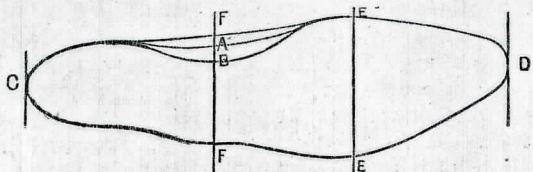
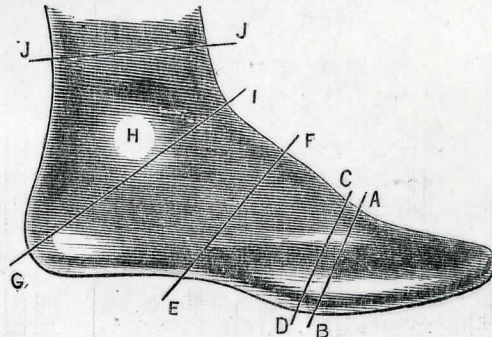
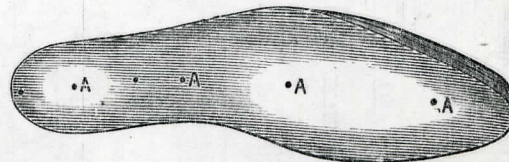

Fig. 64.—Shape of Foot Drawn on Paper
Fig. 66.—Measuring a Stockinged Foot.
Fig. 69.—Bottom of Last.
IN making a pair of boots or shoes, the lasts are the first requirements; and these cannot be done without. To know the size wanted, it is necessary to take the measurement of each foot. To do this, place a sheet of paper on the floor or any smooth surface, then let the person stand full weight upon it, and draw on the paper an outline of the foot, being careful to hold the pencil quite upright, especially at the toe, d, and heel, c (Fig. 64). Then,
Fig. 65 represents a shoemaker's penny tape measure; on one side it has inches, and on the other sizes which are three to an inch. With this tape take the length of the draft from c to d (Fig. 64), and, supposing it to measure size 5 (A 5's last measures just 10 in), you will
the whole joint, and be drawn only just tight; it must pass under the foot at E E (Fig. 64), and over the great toe joint and knuckle of the little toe, A B (Fig. 66). This measurement is then marked on the draft, and so with each until all are taken. Take the second joint, c d (Fig. 66), passing round the larger parts of the ball of the foot. Next the instep, E F (Fig. 66), letting the tape pass under the hollow of the inside waist, E, across the bone marked F in Fig. 64, and the instep bone, F. The heel measure is taken, passing round (G) the extremity of heel, under the ankle bone (H), and across the throat of
trouble the superfluous material can soon be removed with a good rasp. In doing this, the bottom of the lasts should be shaped as in Fig. 69. This method will save the trouble and expense of having a pair made by the last maker, and a really good shape can be got to match the shape of your foot by yourself as well as by anyone else; you then take the credit of making the boot and also of fitting the last, and this will give you confidence to fit a pair to any other person's foot.
In Fig. 69 will be seen three shapes for toes; but the shape of the toe should make no difference in the construction of the last. No matter what the shape of the last is to be, space must be given for the great toe, or a bunion will be the result. It will be seen by comparison
with Fig. 64 that the bottom of the last (Fig. 69) is designed to suit the requirements of the foot as it is drawn on the sheet of paper (Fig. 64).
The insoles require to dry whilst fixed on the last. They must be marked with the sewing-awl to the shape of the last, then cut out, and while still wet the grain side is buffed or scraped, and the insole tacked grain side down on the bottom of the last with four tacks in the middle, as A, A, A, and A, shown in Fig. 69, p. 65. The